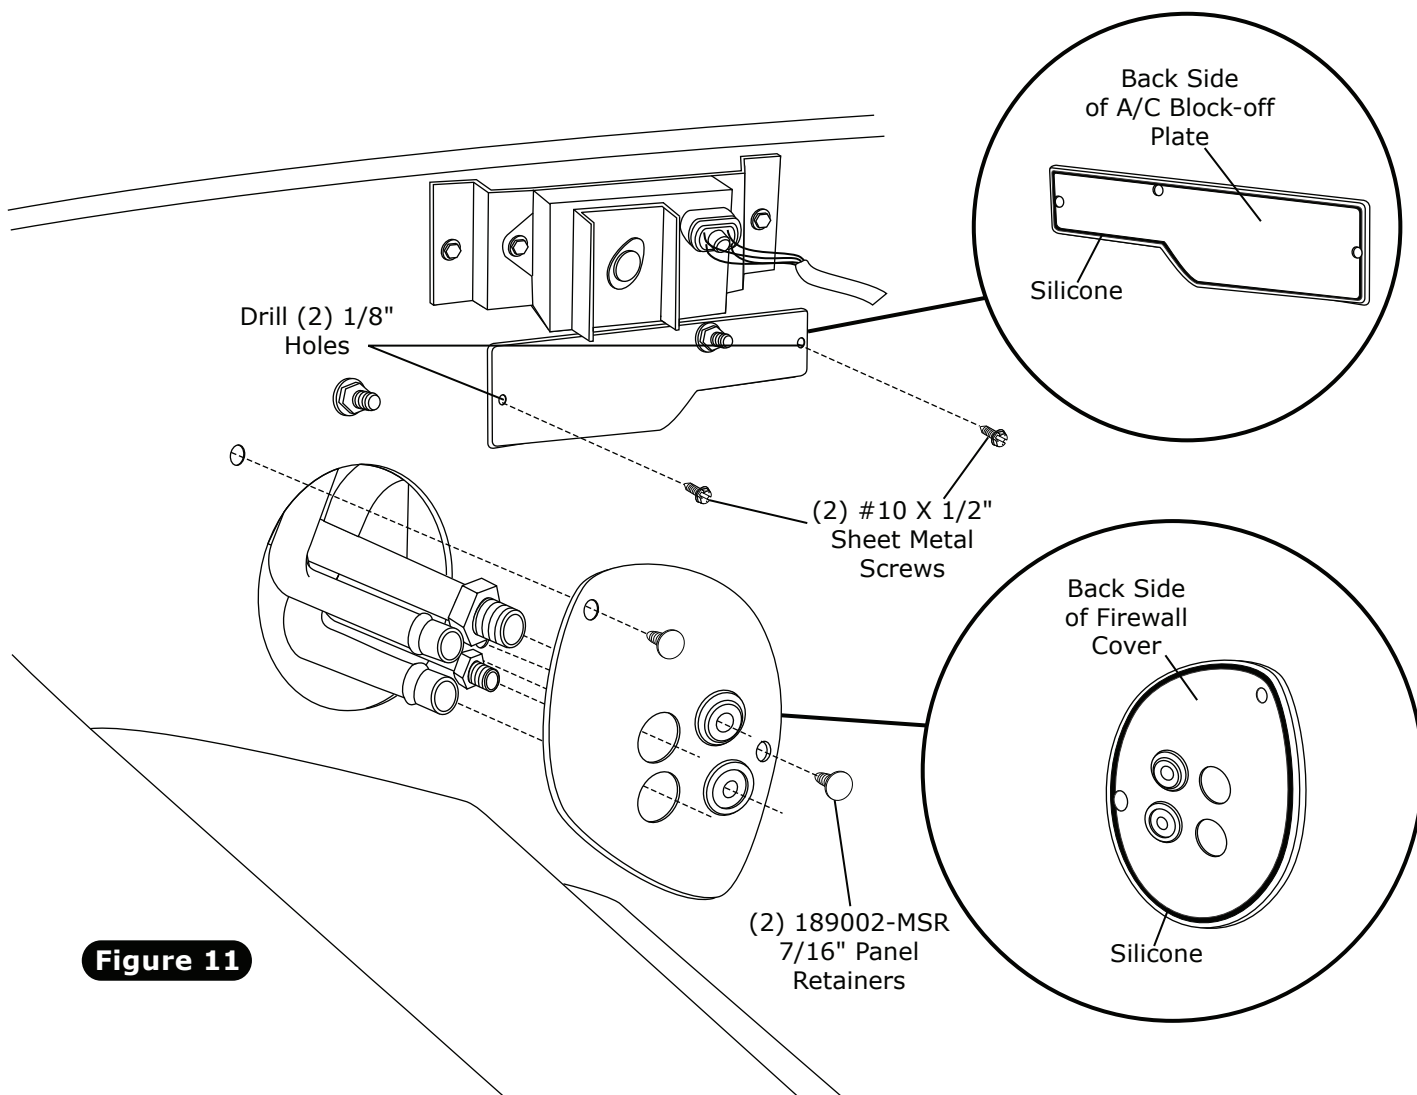

Figure 11
1. Apply a 1/4" bead of silicone around the back side of the firewall cover as shown in Figure 11, below.
2. Pass lines through the firewall cover and secure with (2) 7/16" panel retainers (See Figure 11, below).
3. Apply a 1/4" bead of silicone around the back side of the A/C block-off plate as shown in Figure 11, below.
4. Drill (2) 1/8" holes in firewall using the A/C block-off plate as a template (See Figure 11, below).
5. Install the A/C block-off plate using (2) #10 x 1/2" sheet metal screws as shown in Figure 11, below.